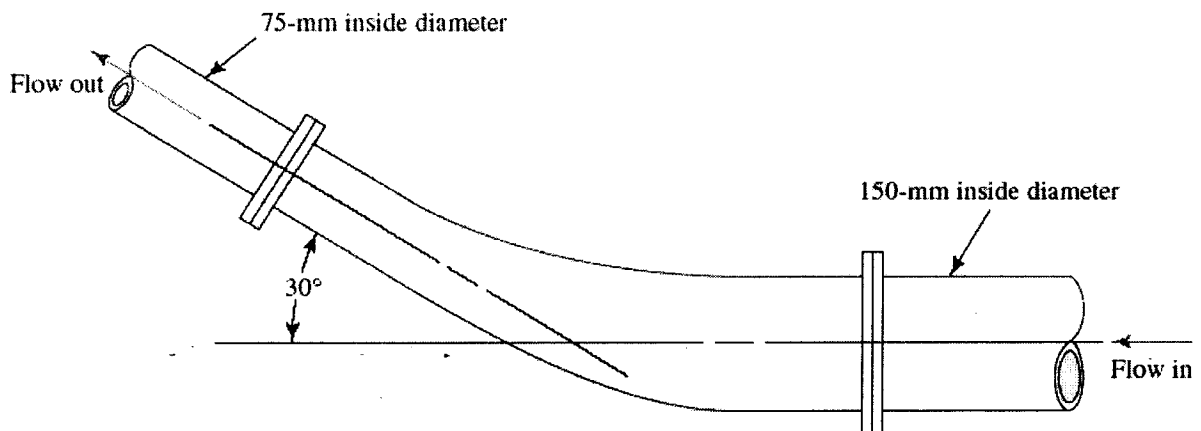

Figure 4 / Rajah 4
3. [a] Linseed oil with specific gravity of 0.93 enters the reducing bend shown in Figure 4 with a velocity of 3m/s and a pressure of 275kPa. The bend is in a horizontal plane. Calculate the x and y forces required to hold the bend in place. Neglect energy lost in the bend.